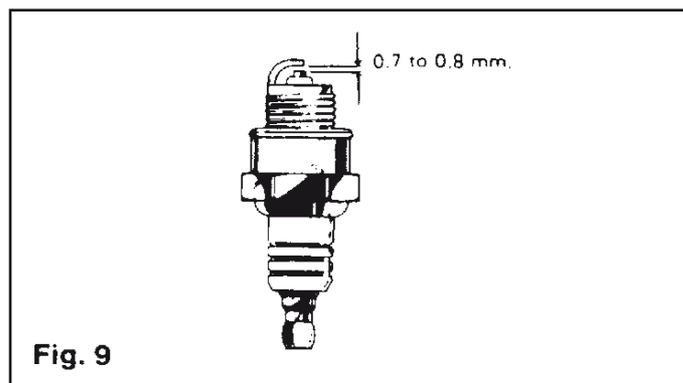

Fig. 9
4. Set gap between electrodes at 0.7mm to 0.8mm. See (Fig. 9).